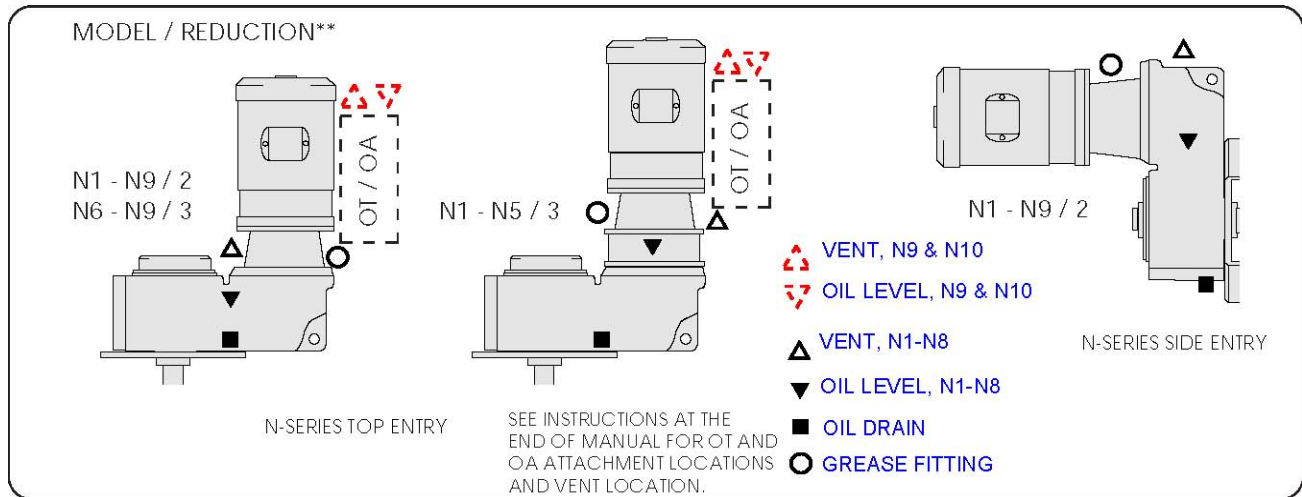

FIGURE C1.1
Check that the oil level is to the proper level before start-up (see Figure C1.1), and that none was lost during shipment/installation. Units with an oil tank (OT) or expansion chamber (OA) will require a